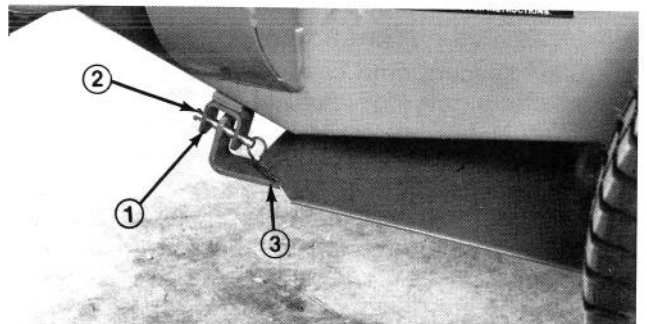

Figure 7
7. Raise rear of Belly Shield and secure to Belly Shield hangers with a clevis pin and hairpin cotter on each side (Fig. 7). Push hairpin cotter all the way to loop, to prevent loss.